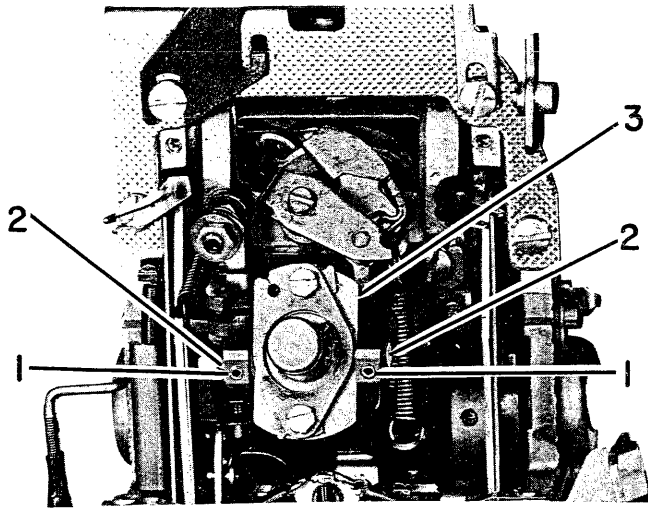

FIGURE 15. Lower Ball Socket and Tilt Ring Removal
5. Loosen the two setscrews (#1, Figure 15).
6. Remove the two pivot pins (#2, Figure 15).
7. Remove the tilt ring (#3, Figure 15) and remove the ball joint.